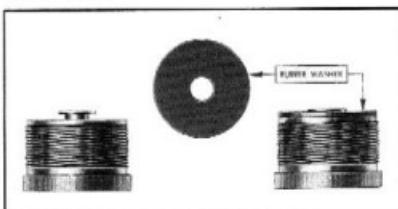

Fig. 25—Valve Seat Washer Assembly
2. Remove the valve seat washer from the button on the end plug, Fig. 25.
Check the clearance between the edge of the primary cup and the center of the compensating port, Fig. 25. In order to check this clearance accurately the main cylinder must be partially assembled as follows:
3. Push the piston and cup against the pedal stop and check the clearance between the edge of the primary cup and the center of the compensating port. This clearance should be a minimum of .035 thousandths of an inch. This check is made easiest by using a wire inserted through the reservoir of the housing and extending into the piston chamber, Fig. 25. If the clearance is less than .035 thousandths of an inch, the primary cup must be replaced with a new one.
1. Dip a new check valve seat washer in genuine hydraulic brake fluid, and assemble over the button on the end of the end plug, Fig. 25. Assemble a new gasket over the end plug and screw the end plug, valve seat washer and gasket into the main cylinder housing. Tighten the nut securely.